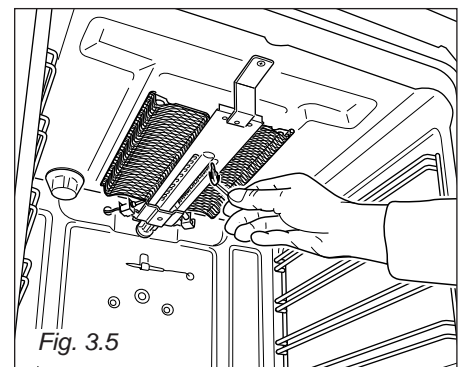

Fig. 3.5
3) Press the knob right down to prime the electric ignition. Keep the knob pressed. In case of power cut, press the knob and put a lighted match to the right and left side of the burner (fig. 3.5).